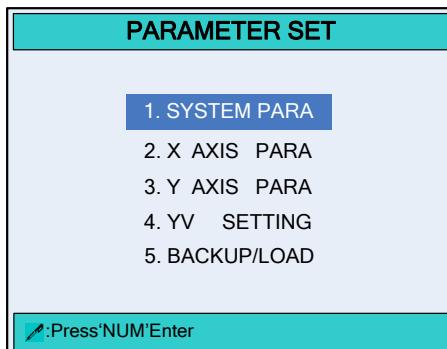

Figure 3-5 The **PARAMETER SET** page
**Step 3** Move the cursor to parameter **mm/inch** or **中文/English**, enter the password **14789**, and press to enter the **PARAMETER SET** page, as shown in Figure 3-5.